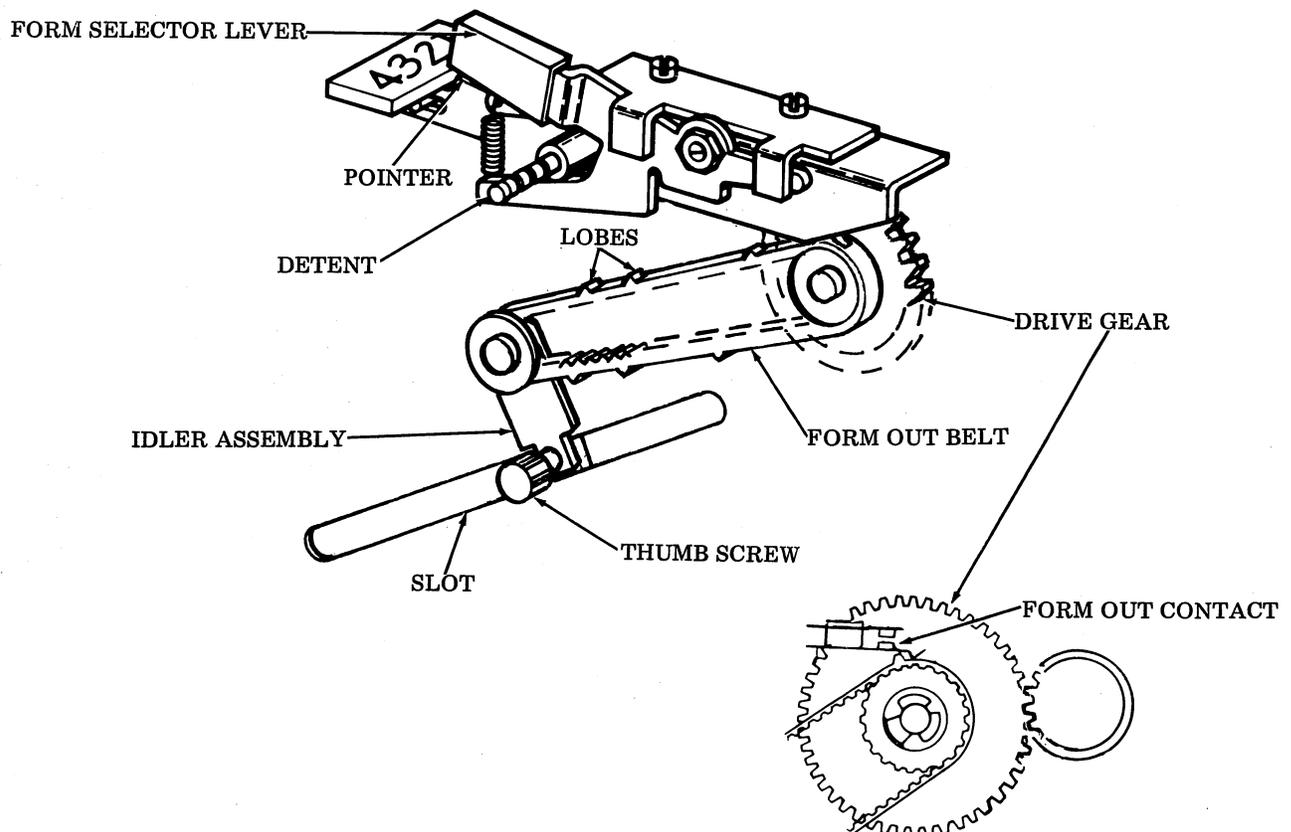

Fig. 33—Form Out Mechanism
C. Form Out Mechanism (Fig. 33)